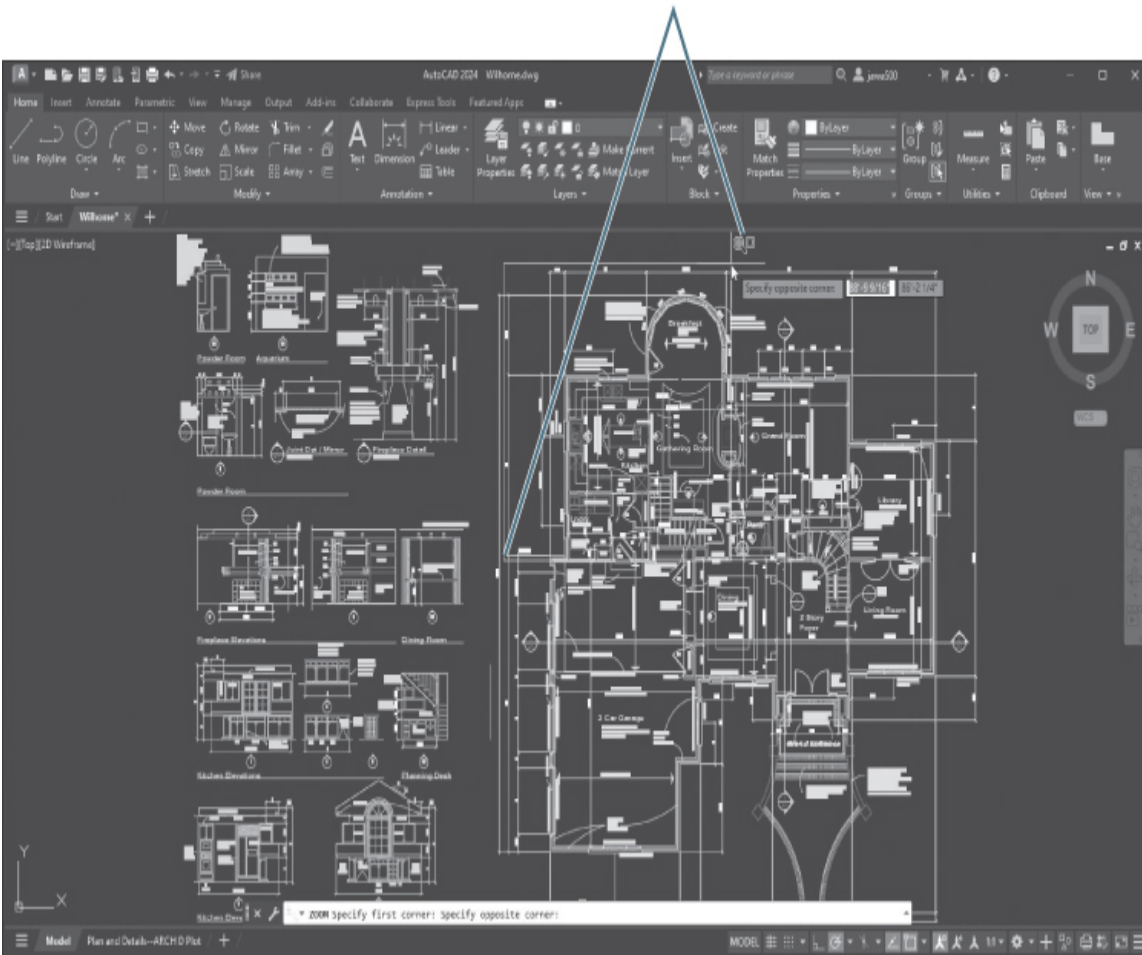
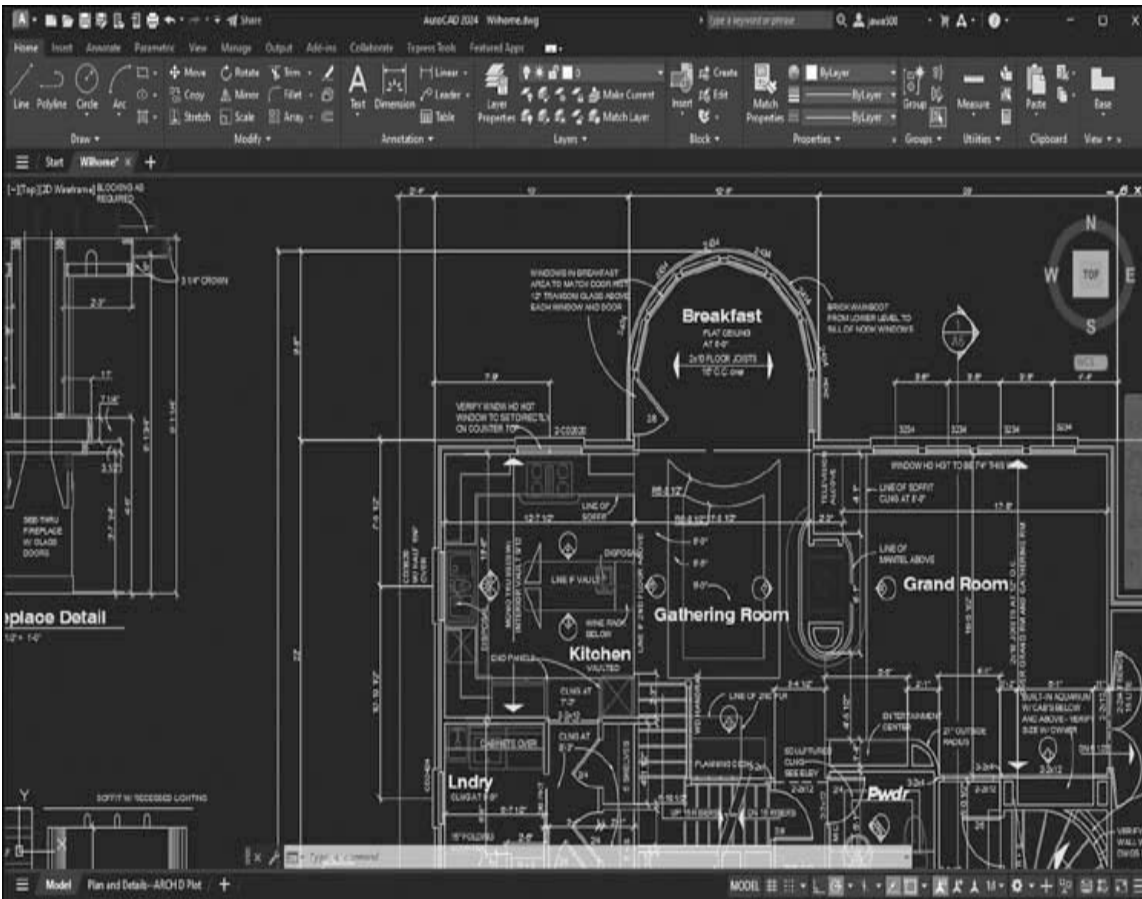

Figure 3-3
Figure 3-4
After selecting the **Zoom Window** tool, you are prompted to select the two corner points of the window. Select two points in your drawing to define the rectangular area you wish to zoom on as shown in Figure 3-3.
The display is zoomed immediately after selecting the second corner point, as shown in Figure 3-4.
- 4 Size the rectangle so that the information you want to zoom in on is within the windowed area, and pick another point in your drawing (see Figure 3-3).
- 5 After you pick the second point, the windowed area is zoomed to fill the drawing display window (see Figure 3-4).
The **Zoom Previous** tool is probably the most popular of the **Zoom** tools because it allows you to restore the previous drawing display. In fact, you can restore up to 10 previous views, so that you can step back in time. This capability allows you to zoom in on an area of your drawing to get close to your work (see Figure 3-4) and then quickly return to the previous overall view (see Figure 3-3). From there you can zoom in on other areas and then zoom back out again. The combination of the **Zoom Window** tool and the **Zoom Previous** tool provides one of the easiest, most efficient ways to navigate around your drawing.
- 3 Follow the steps shown in Exercise 3-2, and zoom in on an area of the drawing so that the drawing display looks similar to Figure 3-4.